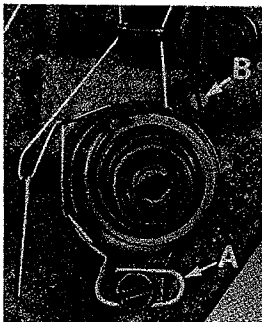

Fig. 18 A
1. Set the tension assembly so that the tension discs are centered on the check spring eyelet (A, Fig. 18 A).
2. Solenoid plunger pin (E, Fig. 16 A) must touch tension release pin and the end of solenoid plunger pin must protrude a minimum of 1/32 inch (.79 mm) to a maximum of 1/16 inch (1.59 mm). If adjustment is required move tension post assembly in or out by loosening set screw located under machine arm and moving stop screw (B, Fig. 18 A) as required.